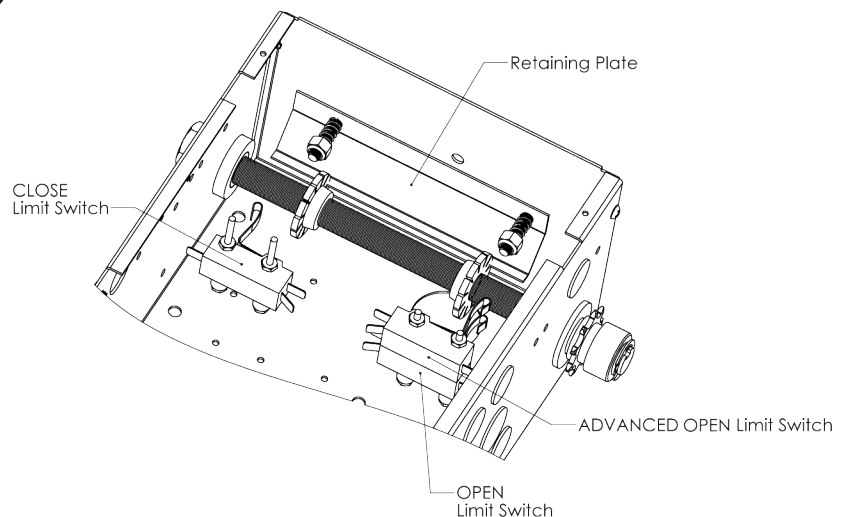

FIGURE 8
- Repeat Steps 1 and 2 for close cycle. Adjust close limit nut so that actuator is engaged as door fully seats at the floor. (Figure 8)